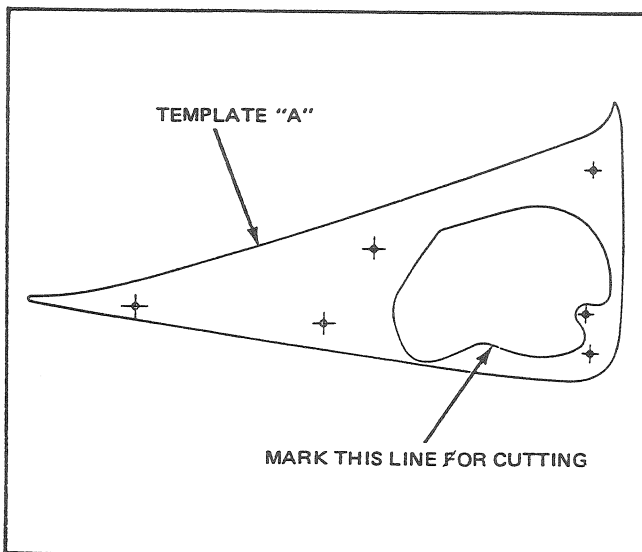

Fig. 1 – Article No. 108
2. Remove the engine compartment grille attaching screws (4) and remove the grille.
4. Remove the left rear wheel well splash shield attaching nuts (1) and screws (2) and remove splash shield (if so equipped).
5. From inside the left rear wheel well remove the grille attaching wing nuts (4) and remove the grille.
6. Cut out the templates supplied with the filler pipe housing (D36Y-6327936-A) and place template "A" in position on the left rear quarter panel. Mark out the position of the gas filler cap opening (see Fig. 1).